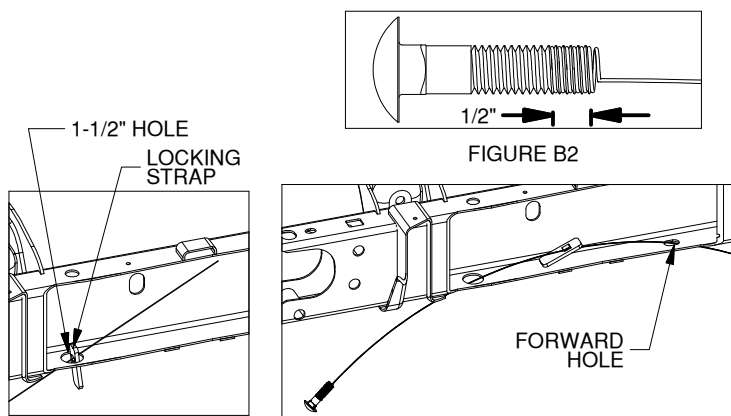

Figure B3 & B4: Cutaway view of driver side frame.
- 2. Install frame carriage bolt.** The installation of the frame brackets requires a 1/2" x 2" carriage bolt to be installed inside the frame. First, locate two 1/2" x 2" carriage bolts, two locking straps, and the two fish wires. Locate the 1-1/2" hole in the bottom of the frame; it is located roughly 14 inches from the end of the frame. The hole in which the carriage bolt will be installed is forward of the 1-1/2" hole another 14 inches. Start by attaching a carriage bolt onto a fish wire, as shown in figure B2. Next, position a locking strap into the 1-1/2" hole and thread the fish wire through the square hole in the locking strap and into the frame, see figure B3. Continue to feed the fish wire into the frame until it becomes visible through the forward hole. Retrieve the end of the fish wire through the forward hole. Push the locking strap completely into the frame, see figure B4. Pull the fish wire and pass the carriage bolt into the frame. Pull the end of the fish wire and maneuver the carriage bolt into the square hole in the locking strap. Pull the carriage bolt out through the frame and remove the fish wire. Repeat this process for both sides of the frame.